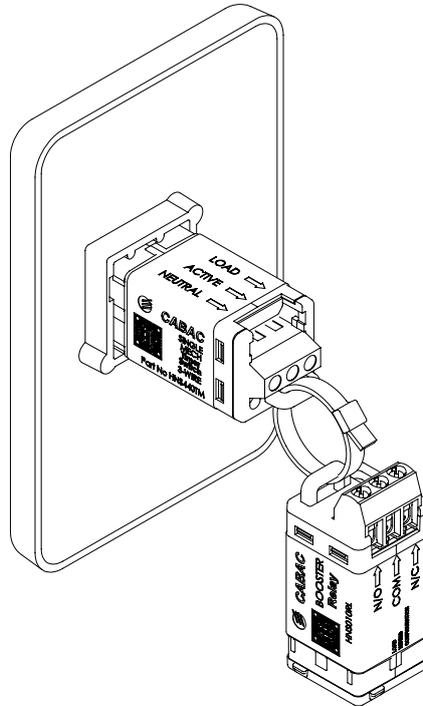

Figure 5: In wall installation.
- Figure 5 shows an example of how the HNS010RL may be mounted in-wall by using the cable tie feature of both the HNS010RL and the Cabac 3-Wire S-Click range products (e.g. HNS440TM, HNS450TM or HNS460SW).